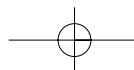

Figure 5 - Surface Wiring
- (4) Lift off the wiring cover as shown in Figure 5.
- (5) If the mains wires are being brought along the surface, conduit can be inserted into the top and/or bottom, for the cable.
- (a) position the mounting plate, so that the cable conduit is as shown in Figure 5.
- (6) If the mains wires are recessed, bring the wires through the rear hole in the mounting plate as shown